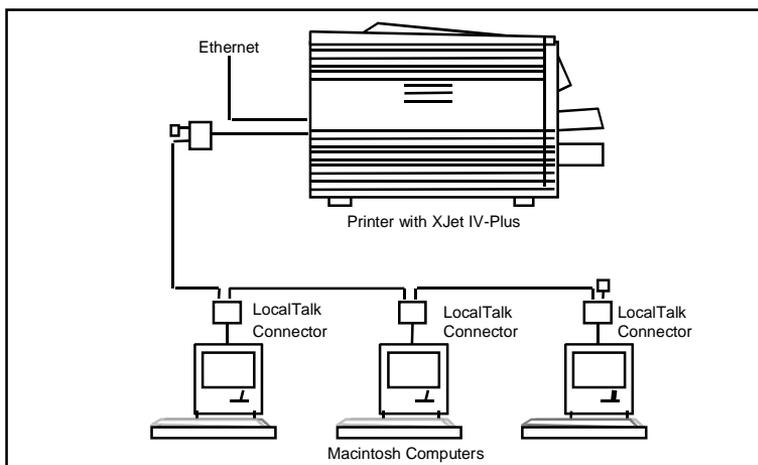

Figure 2-12
2. Plug a LocalTalk-compatible connector (such as the Apple LocalTalk connector or the Farallon PhoneNet connector) into the XJet LocalTalk port as shown in figure 2-12.